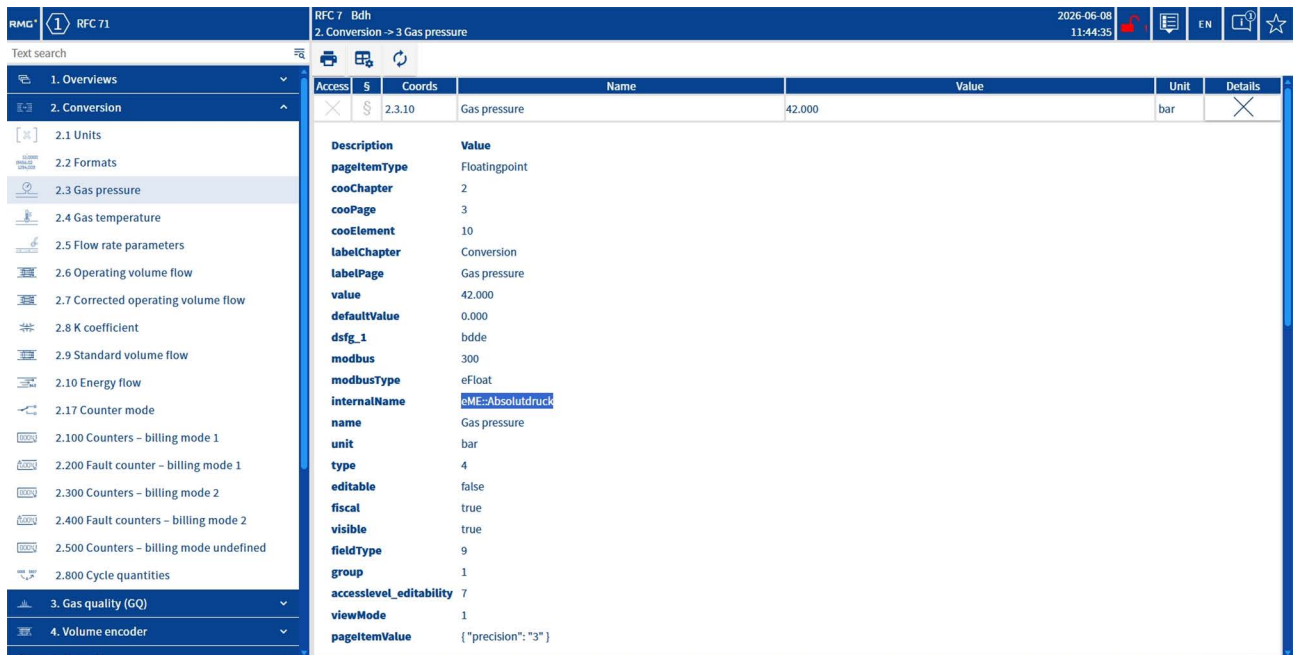

Fig. 99: Details information window for gas pressure
- ▶ Highlight the value entered for **internalName**, in this example **eME::Absolutdruck** (see fig. 99), and use the Copy and Paste functions (keyboard shortcuts: Ctrl+C and Ctrl+V) to paste the highlighted value into coordinate **5.200.30**.